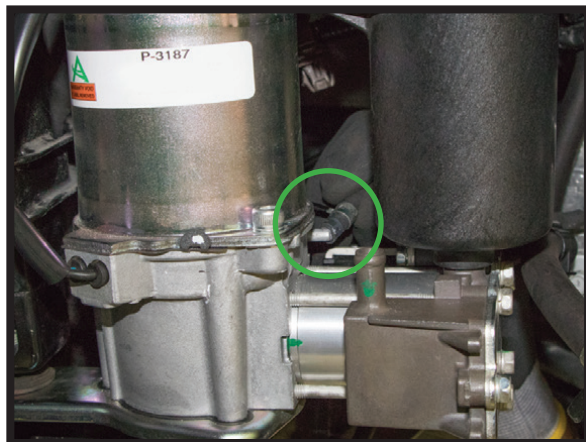

FIGURE 26
4. REINSTALL THE COMPRESSOR'S AIR HOSE. (FIGURE 26)